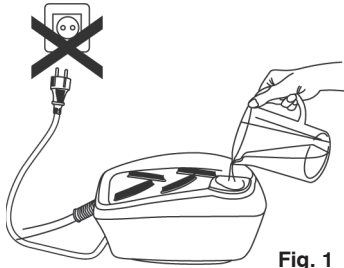
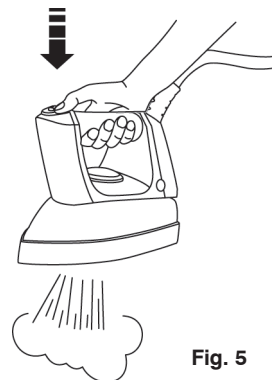

Fig. 1
Fig. 5
- The appliance must not be connected to the mains while the boiler is being filled (Fig. 1).
- Unscrew the cap (F) and fill the boiler with water, using a jug (Fig. 1) (if you fill it with hot water, the appliance will be ready for use sooner).
- By pressing the steam switch (H) you will get a constant steam jet (Fig. 5). The steam stops when you release the switch.
- Eliminate steam pressure from inside the boiler by switching on the steam switch (H) (Fig. 5).
- Turn off the boiler (B) and iron (A) switches.
- Carefully unscrew the cap (F) to let the residual steam out of the boiler.
- Wait for some minutes and carefully pour 1l of water into the boiler using a jug (Fig. 1).
- Carefully close the cap (F) again, screwing it to the end.